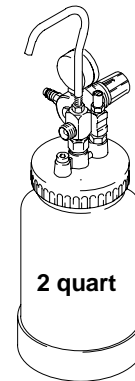

Fig. 5
1. Relieve remote pressure pot pressure as follows (see Fig. 5):
- b. Turn pressure relief knob (113). Wait until pressure is completely relieved before you remove cover. Close knob.